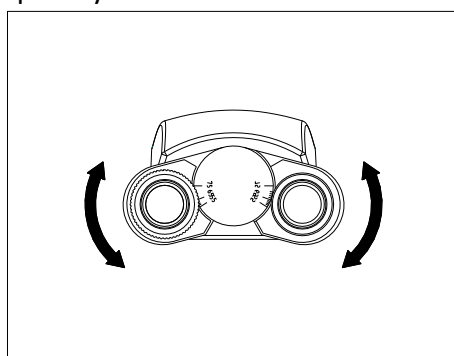

Fig. 21
3.2.6 Adjusting the Interpupillary Distance (Fig.21)